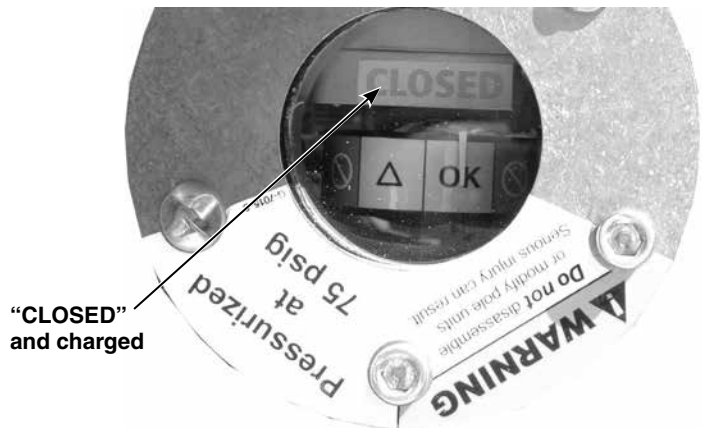

Figure 56. Check that the pole-unit position indicator is in the “CLOSED” and charged position.
- d. Check that the pole-unit position indicator is “CLOSED” and charged. If the pole-unit position indicator shows “OPEN” and discharged, repeat Steps a through c. See Figure 56.